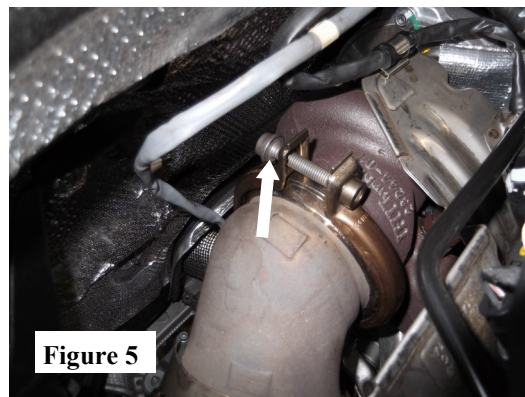

Figure 5
1. Orient the **Downpipe Assembly** inlet to the turbo outlet and connect the hangars into the OE rubber hangar. Install factory clamp hardware and lightly tighten. (See Fig. 5)